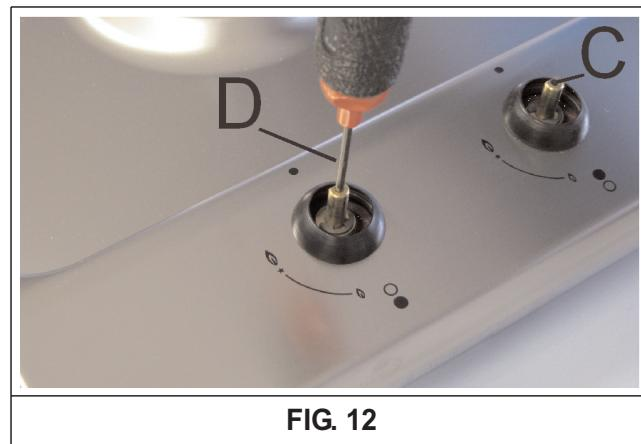

FIG. 12
- Remove knob (fig. 12) of the tap, which is simply pressed on to its rod.
- Insert a small screwdriver "D" into hole "C" (fig. 12) and turn the throttle screw to the right or left until the burner flame has been adequately regulated to the "Reduced rate" position.